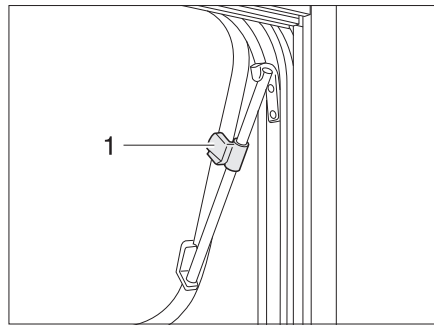

Fig. 67 Hinged window with rotary hinges, open
- Open the hinged window until the required position has been reached and secure in position using the knurled knob (Fig. 67,1).
- Turn the knurled knob (Fig. 67,1) until the latch is released.